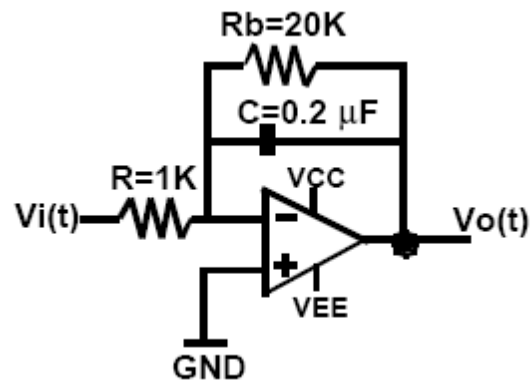

Figure 4. Integrator with shunt resistor.
For the circuit in Figure 4 with power supplies $V_{CC} = 12.0\text{ V}$, $V_{EE} = -12.0\text{ V}$, and assuming the opamp is ideal, answer the following questions:
1. Build the circuit in Figure 4 with power supplies +12.0 V, - 12.0 V. Apply a sine wave input signal with amplitude 600 mV, DC offset 0V and frequency 1200 Hz. Display the input signal on channel 1 of the oscilloscope.
5. Repeat item 4 above using a triangular input signal with same amplitude and frequency. Turn this screenshot in as part of your lab report.
6. Now change the input back to a sine wave as in item 1. Remove the resistor R_b while running the function generator and Data capture. Align two waveforms so that it will be easier to see the output. What happens to the output signal? Explain the phenomenon you observe on the oscilloscope. Re-insert the resistor R_b and verify that the circuit functions as designed.